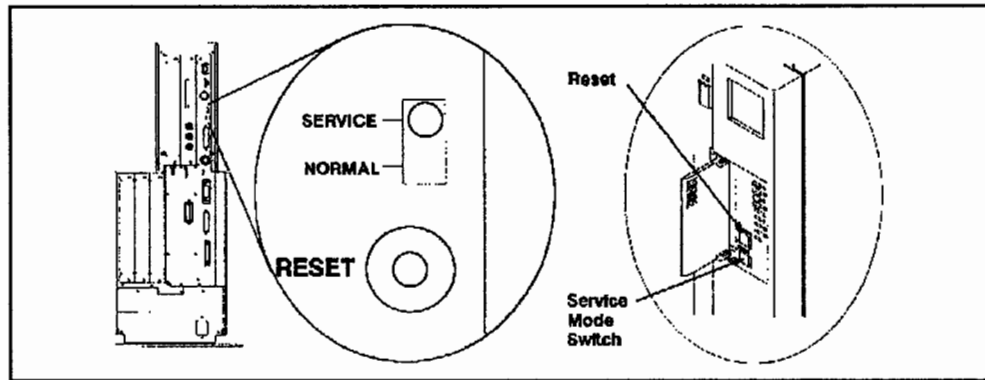

Figure B-1. System Unit Service/Normal Switch and Reset Button
1. Refer to Figure B-1. On the system unit, find the Service/Normal switch and set it to Service.
2. Refer to Figure B-1. On the system unit, press the RESET button to reset the system unit.